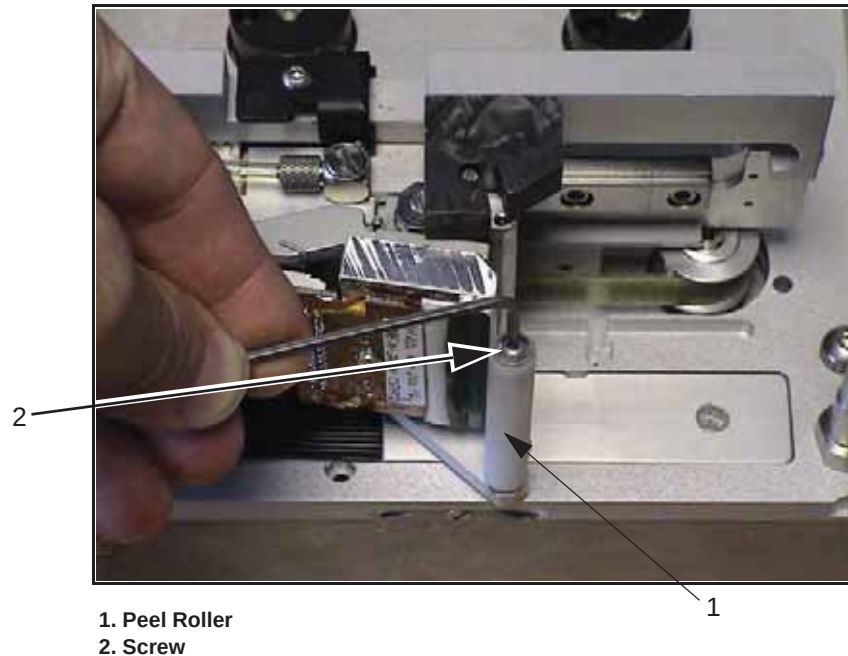

Figure 5-19: Peel Roller Screw Removal
- 2 Remove the screw on the top of the peel roller as shown in Figure 5-19.